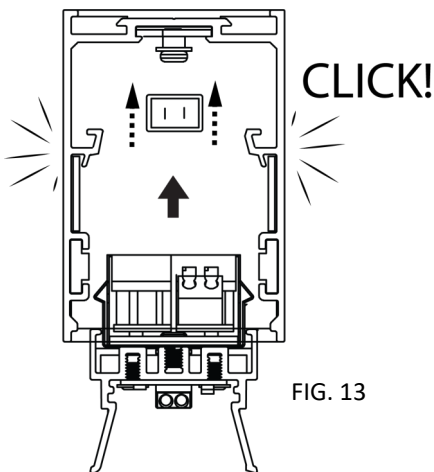

FIG. 13
STEP 3.3: Create ETE connection (A)
- Clip in the gear tray. Ensure not to pinch the cable and connector. A loud CLICK indicates a secure alignment (Fig. 13).